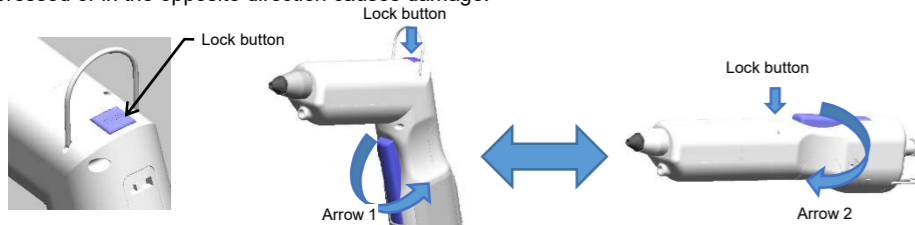

Figure 2
- Press the lock button on the main unit to change to gun shape or straight. When gun-shaped, while pressing on the lock button, rotate the grip side 180 degrees in the direction of arrow 1 to switch to the straight shape, as shown in figure 2. When straight, while pressing on the lock button, rotate the grip side 180 degrees in the direction of arrow 2 to switch to the gun shape. After rotating, the lock button clicks so you can confirm it is locked. Always press the lock button all the way in when rotating. Rotating while the lock button is not pressed or in the opposite direction causes damage.